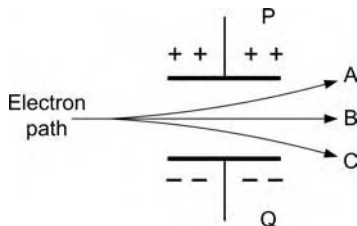

Figure 5.209
7. A beam of electrons moves between two parallel plates, P and Q, as shown in Figure 5.209. Plate P has a positive charge whilst plate Q has a negative charge. Which one of the three paths will the electron beam follow? [B1, B2]